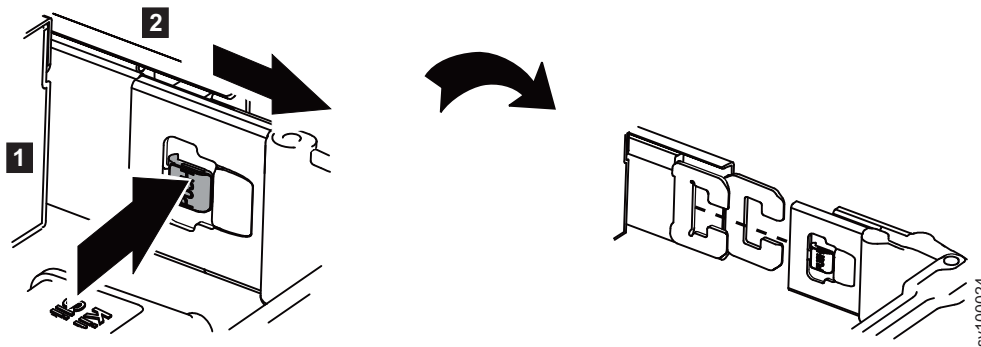

Figure 8. Releasing the inner member of the cable-management arm
5. Release the inner member, as shown in Figure 8 on page 24.